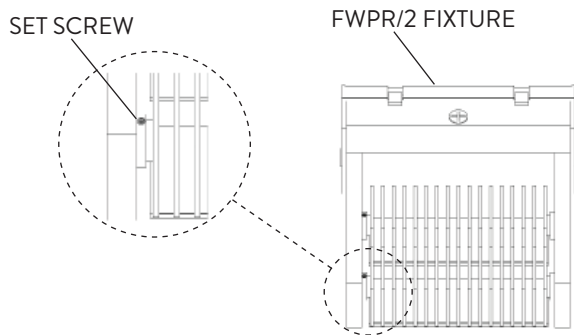

FIG. 1
- 1 All FWPR/2 fixtures have LED Modules that can be rotated, from facing the ground to facing away from the wall at an angle. Loosen the Set Screw(s), located at the side of each Module, then rotate the Module(s) to the desired angle and tighten the Set Screw(s) (Fig. 1). The FWPR/2 fixtures below show the Module rotations (Fig. 2).